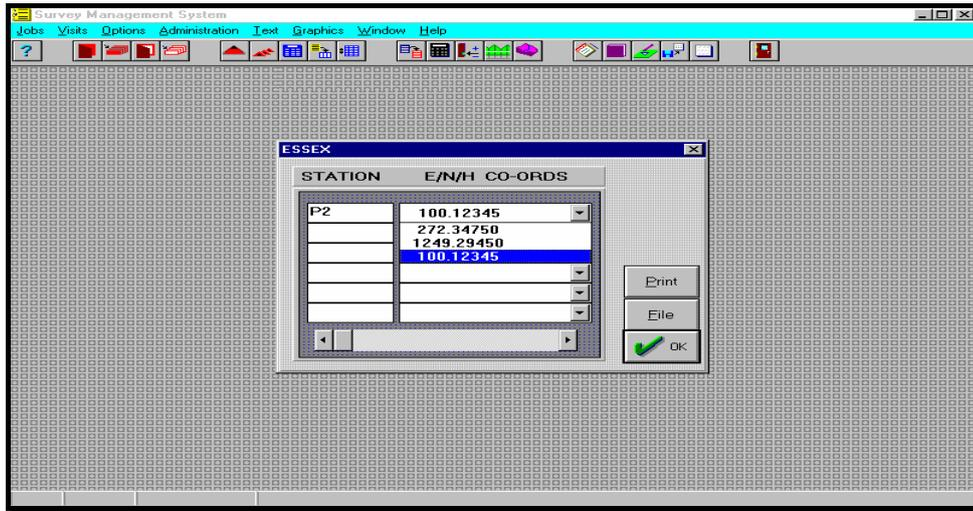

Fig 4.2
- Use List command or icon , to review the data base, Fig 4.2.